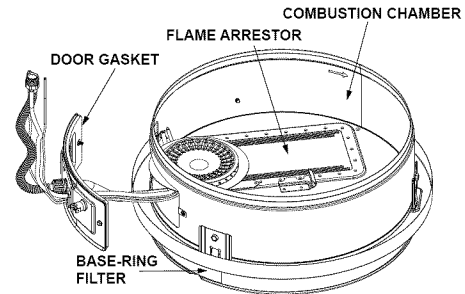

FIGURE 38.
9. Reinstall the manifold component block in the manifold door (Figure 38).
2. Use a vacuum cleaner/shop vac to remove all loose debris in the combustion chamber (Figure 38). Use compressed air to clear any dust or debris that may have accumulated in the flame-arrestor.